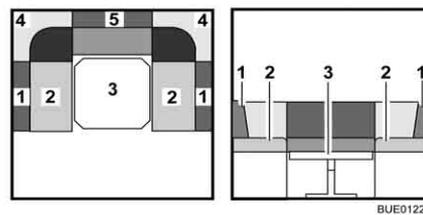

Fig. 99 During conversion
- Remove all back cushions (Fig. 99,1, 4 and 5) and lay them aside.